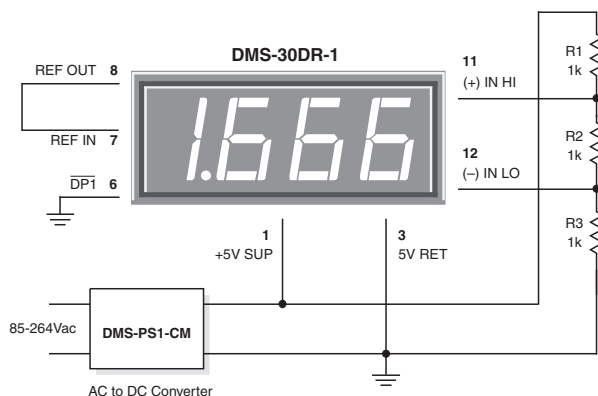

Figure 3. Differential Input Configuration
- 2. Differential Input Configurations:** Differential measurements can be made with all DMS-30DR meters. Figure 3, though not a practical real-world application, uses a voltage divider to demonstrate the concept of a differential input signal. Be careful not to exceed the $\pm 2V$ common mode voltage limitation for 5V-powered meters.